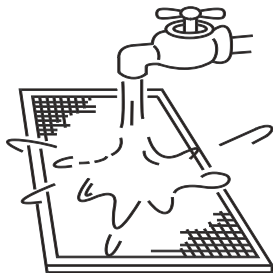

Figure 13.3
- The air intake side should face down when using clean water. (Refer to Figure 13.3)